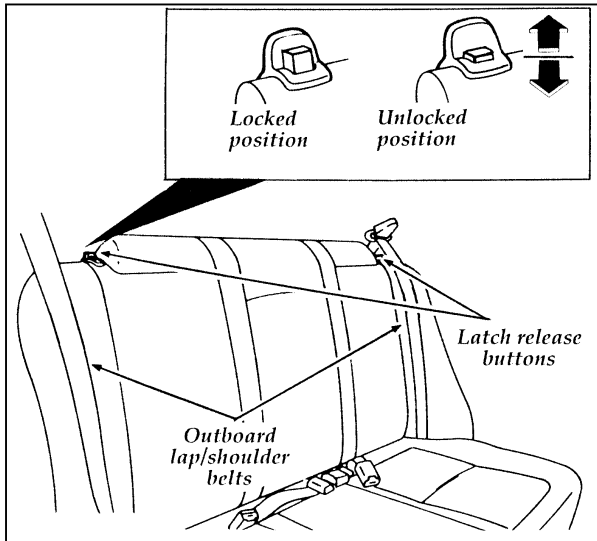

Figure 2: Latch release buttons
4. Route the tongue and webbing through the child seat according to the child seat manufacturer's instructions. See Figure 2. Be sure that the belt webbing is not twisted. If so, remove the twist. (For instructions on how to remove a twist, see the *Procedure to Correct a Rotated Tongue on the Safety Belt* section in this chapter.)
When the latch release buttons are in the full up position (locked) and the built-in child seat is open, the rear seatback cannot be unlocked and folded down. See Figure 2.